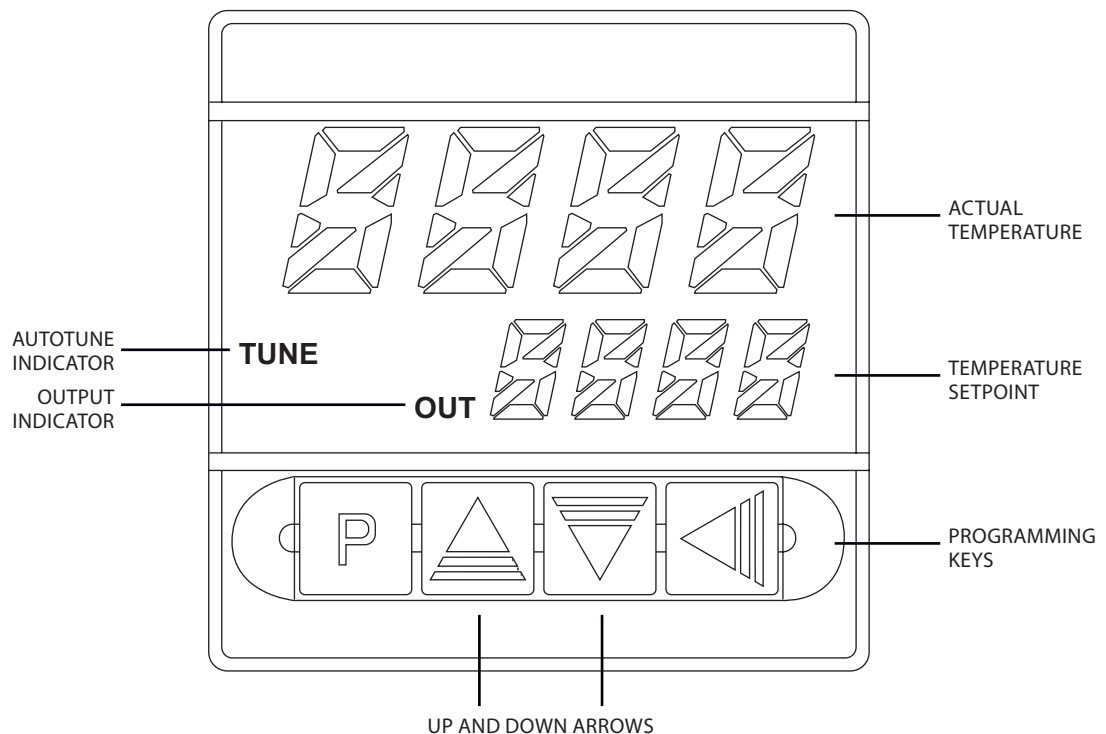

Figure 3: ITC2 controls and display
Use the up and down arrows on the controller (**Figure 3**) to select the desired temperature setpoint.
4. Use the up and down arrows on the controller (**Figure 3**) to adjust the temperature setpoint to the desired reading. This can be done before the autotune sequence is completed.
4. Use the up and down arrows on the controller (**Figure 3**) to adjust the temperature setpoint to the desired reading.